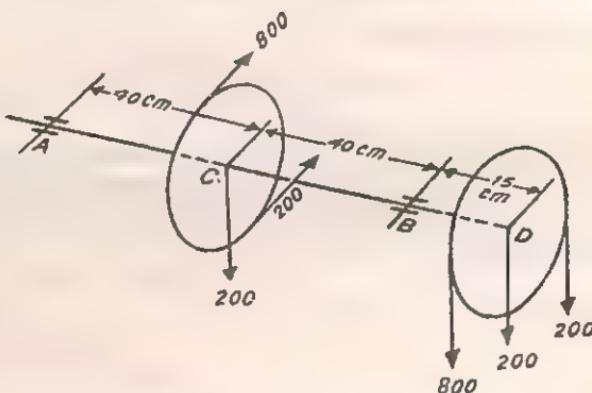

Fig. 11
26. Determine the necessary diameter for a uniform shaft carrying two equal pulleys 80 cm in diameter and weighing 200 kg each as shown in Fig. 11. The horizontal forces in the belt for one pulley and the vertical forces for the other are shown in the figure. The permissible shear stress in the shaft material is 400 kg/cm².